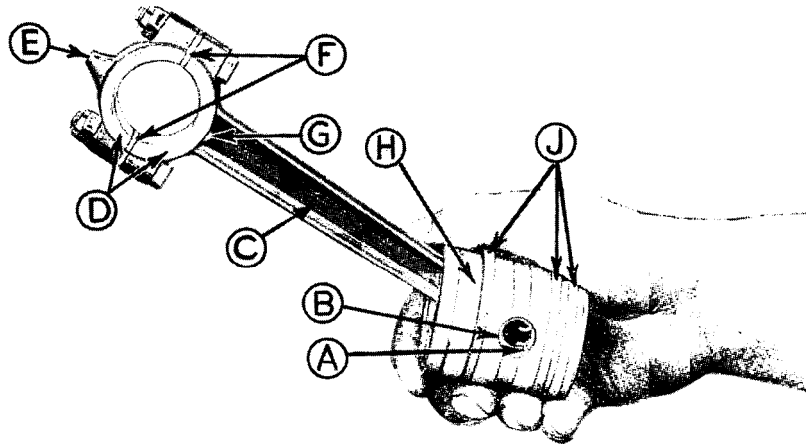

Figure 23
c. Replacing Piston Pins. The piston pins in the engine are full-floating and are held in the piston by means of spring steel retainers (Fig. 2.3). The steel pin is fitted to the bronze bushing in the upper end of the connecting rod with a snug hand-press fit, and to the piston itself with a tight hand-press fit (should be snug enough to require considerable force to insert the pin). To test fit of pin in rod bushing, clamp pin in a vise, after attaching the connecting rod. The weight of the rod should be sufficient to allow the rod to drop gradually. Use the same test when fitting pin in piston (Fig. 23). Use a shim to test pin fit. Replace piston pins that are worn, or are loose in bushing or piston. If connecting rod bushing is worn, replace it.